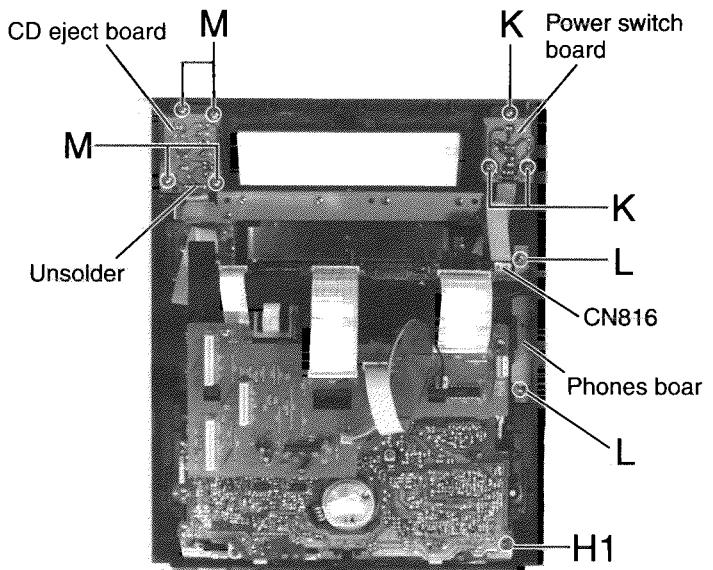

Fig.16
**■ Removing Each Board of the Front Panel Assembly (See Fig.16 and 17)**